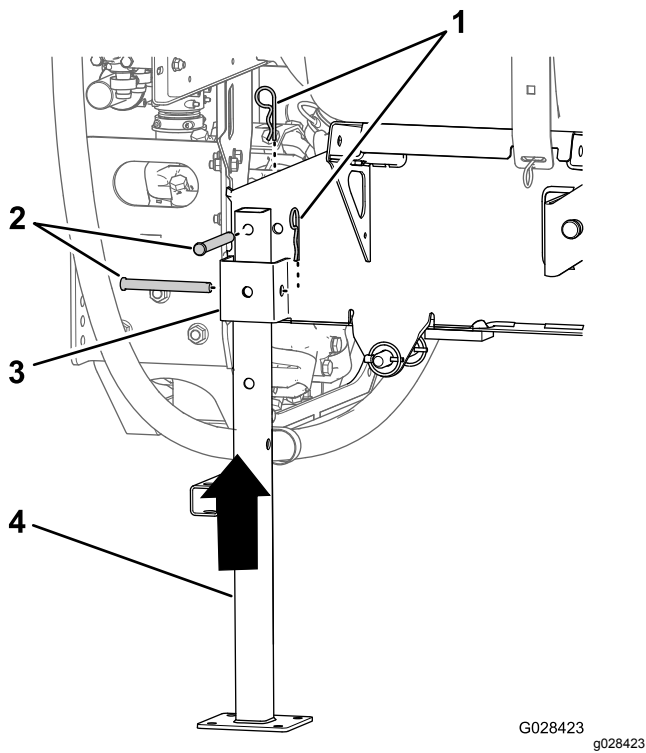

Figure 119
5. Align the rear jackstand with the rear jackstand receiver (Figure 119).
6. Align the hole in the top of the jackstand with the hole in the frame of the tank skid (Figure 119)
7. Secure the jackstand to the receiver and the frame with 2 clevis pin (1/2 x 4-1/2 inch) and 2 hairpins (5/32 x 2-5/8 inch) as shown in Figure 119.